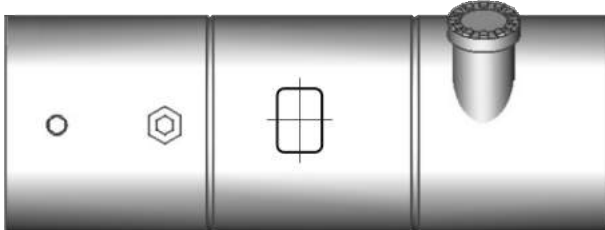

Figure 10: Selecting and Marking Mounting Area
- Determine the mounting area for Capvel-FUEL on the tank and mark it. It is recommended that the center of the tank is used for mounting. (Refer to Figure 10.)